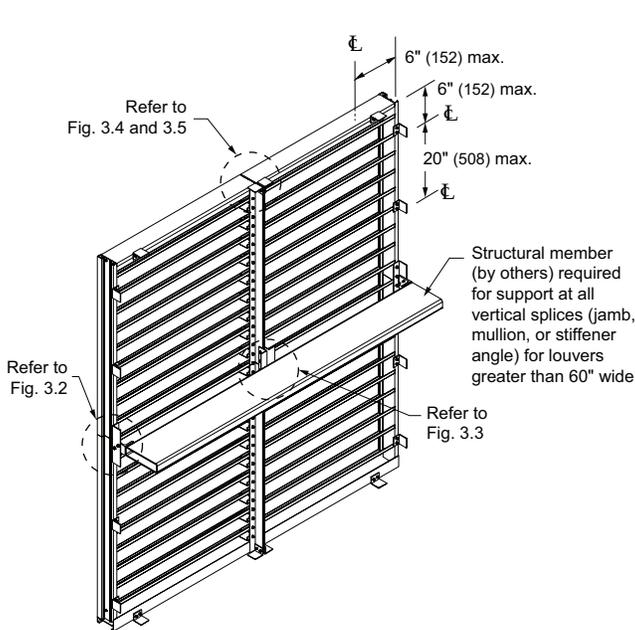

Fig. 3.1 Clip Angle - Multiple Section Louver
1. Locate all anchor clip angles [Minimum 1-1/2" x 2" x 1/8" thick x 2" long (38 x 51 x 3 x 51)] as shown in fig. 3.1 (Clip angles are by others or optional by C&S).